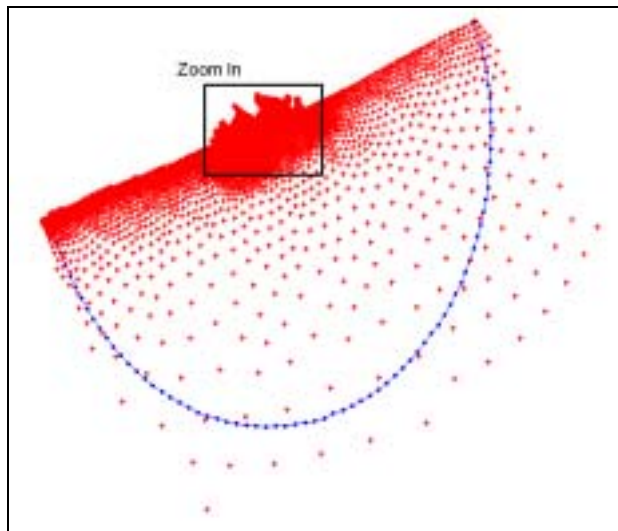

Figure 13-3 Inlet location to zoom in on.
1. Still in the *Scatterpoint*  module, zoom in to the area of the inlet as shown in Figure 13-3 using the *Zoom*  tool in the *Toolbox*.